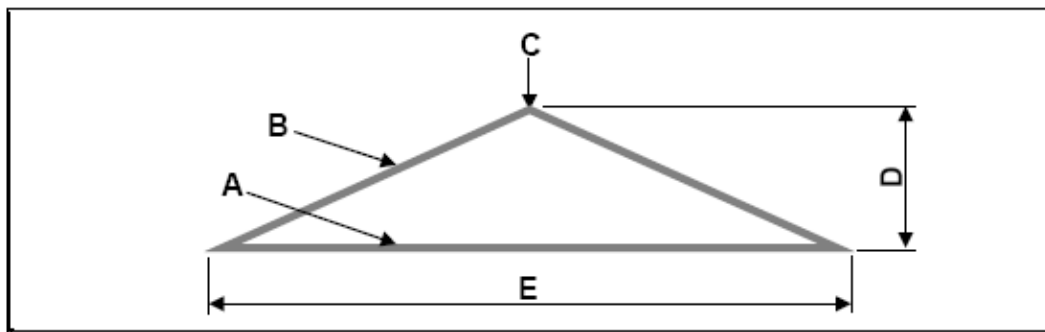

FIGURE 13.1
13.3 FIGURE 13.1 below shows a simple roof truss. Label A–E.